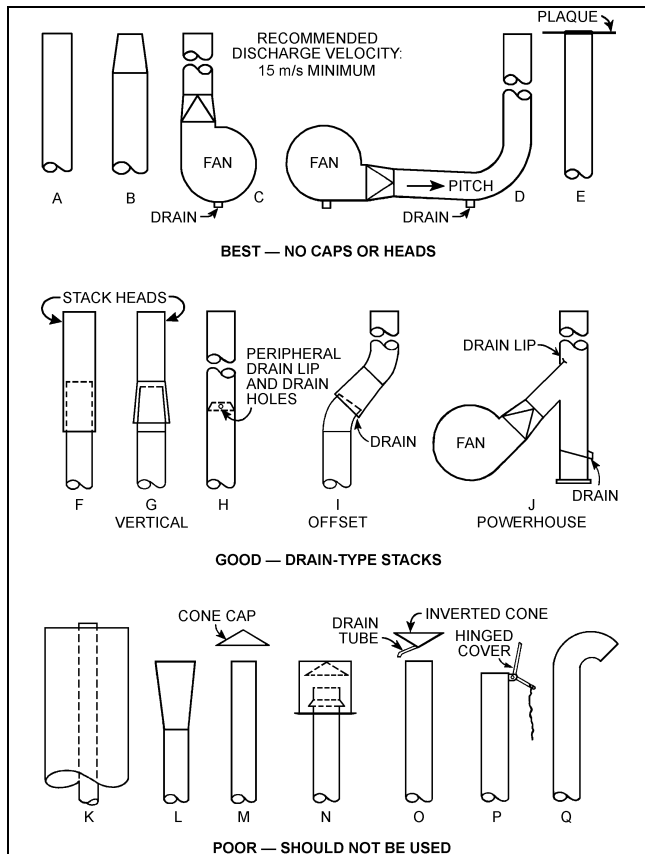

Fig. 2 Stack Designs Providing Vertical Discharge and Rain Protection
p. 34.23, Example 9, 2nd paragraph, 2nd line. Change “Figure 13 in Chapter 16” to read “Figure 2 in Chapter 43 of the 1999 *ASHRAE Handbook—HVAC Applications*.” Figure 2 is presented here for convenience.